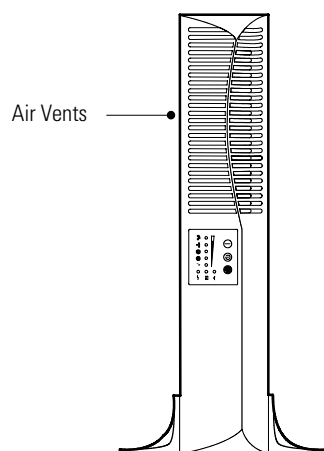

Figure 8. UPS with Pedestals
4. Carefully position the cabinet upright with the air vents at the top (see Figure 8).